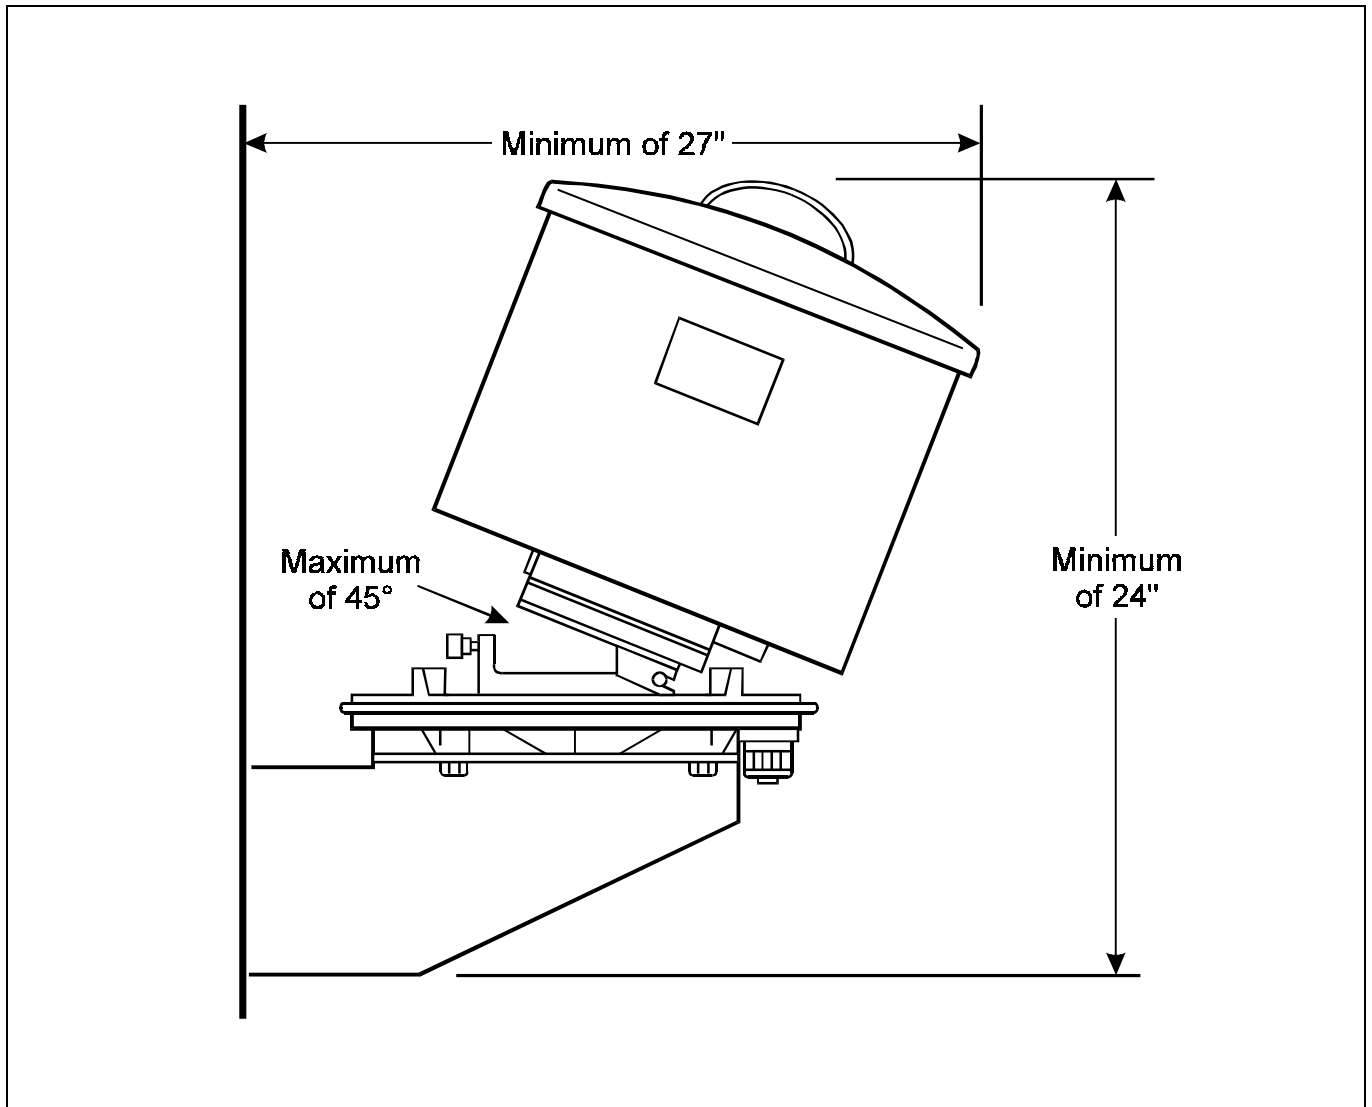

Figure 6. Flat-Surface Mounted Enclosure. This illustration shows the mounting dimensions for flat surface-mounted enclosures.
10.02 Flat-Surface Mounting. Use the procedure in Table 3 to mount the enclosure on a flat surface in a manhole. You must allow for enough top clearance to remove the cover (see Figure 6). Have the following equipment ready before you begin this procedure:
<p>PROCEDURE FOR MOUNTING THE ENCLOSURE ON A WALL (see Figure 6)</p>
<p>PROCEDURE FOR MOUNTING THE ENCLOSURE IN A RACK (see Figure 6)</p>